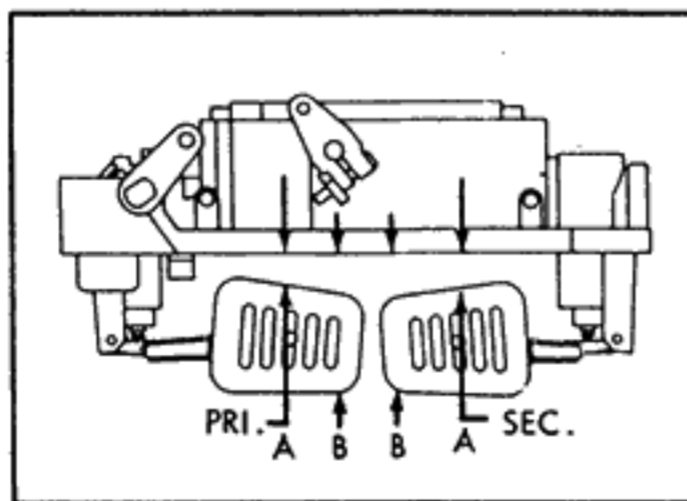

Figure 2
V. FLOAT DROP ADJUSTMENT. (See figure 2.)
- a. TYPE "A" ADJUSTMENT. Hold air horn upright with floats hanging by their own weight. Measure from center top surface of pontoons to air horn (gasket removed) as shown at "A" in figure 2. Refer to Adjustment Data Table for dimensions and adjust by bending stop tabs on float brackets.
- b. TYPE "B" ADJUSTMENT. Hold parts as described above and measure at location "B" figure 2. Refer to Adjustment Data Table for dimensions. Adjust as described above.